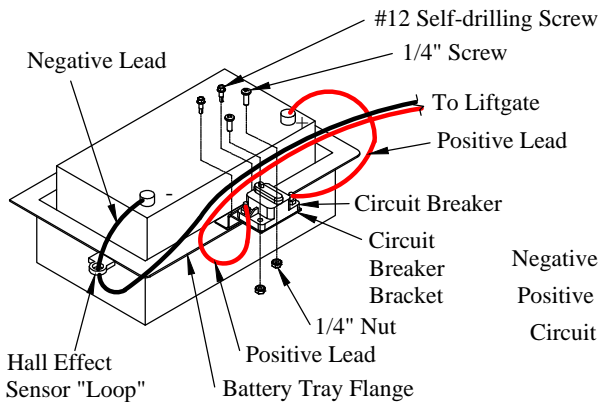

Figure 15: Circuit breaker bracket.
1. **Install** the circuit breaker on the circuit breaker bracket with 1/4" screws and nuts (Figure 15).
Note: The liftgate ground must pass through the "loop" of the hall effect sensor (Figures 15 & 16).